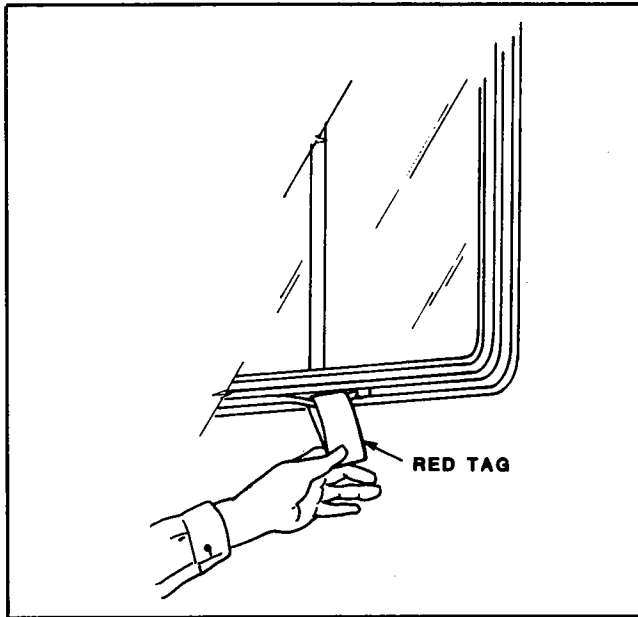

Figure 17. Rubber Key Insert
7. For the "emergency exit" window, pull on the red tag to remove the rubber key insert (figure 17).